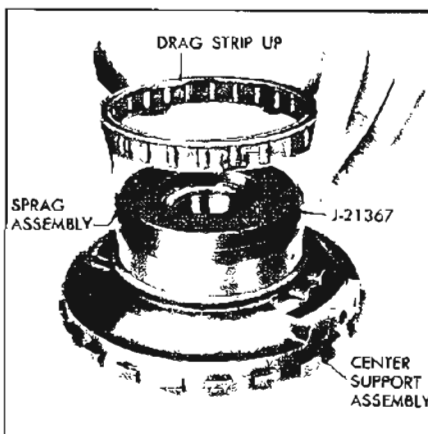

Figure 5-684
17. Using Tool J-21367, as a pilot, install the rear sprag assembly on case center support inner race with bronze drop strips up. See Figure 5-684.